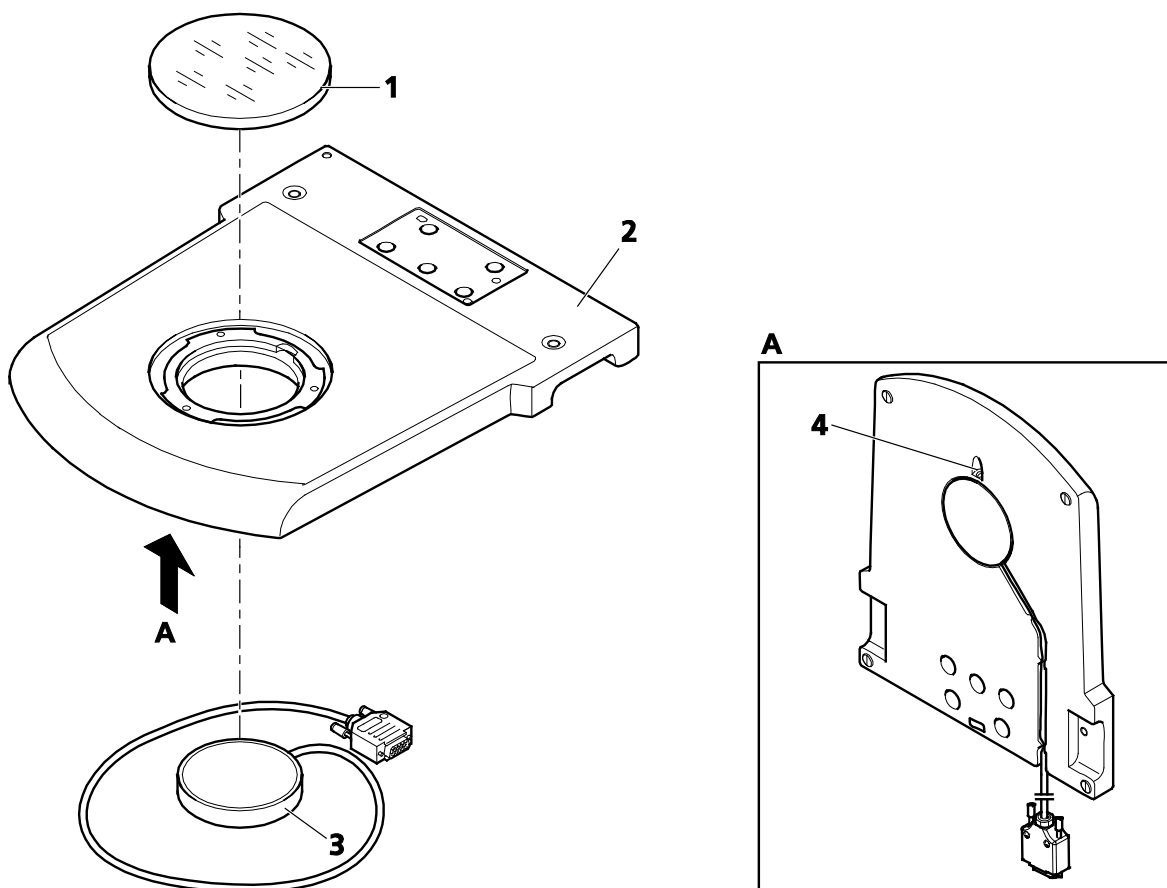

Fig. 22 Inserting the VisiLED transmitted light unit H, d=84 mm into the base 300 for reflected light
- If necessary, remove the glass plate (Fig. 22/1) from the base 300 for reflected light.
- Insert the VisiLED transmitted light unit H (Fig. 22/3) into the base 300 for reflected light (Fig. 22/2) from below.
- Insert the cable into the base 300 for transmitted light and pull the plug through to the outside (Fig. 22/A).
- Secure the VisiLED transmitted light unit H with a clamp screw (Fig. 22/4).
- Insert the glass plate (Fig. 22/1) into the base 300 for reflected light.